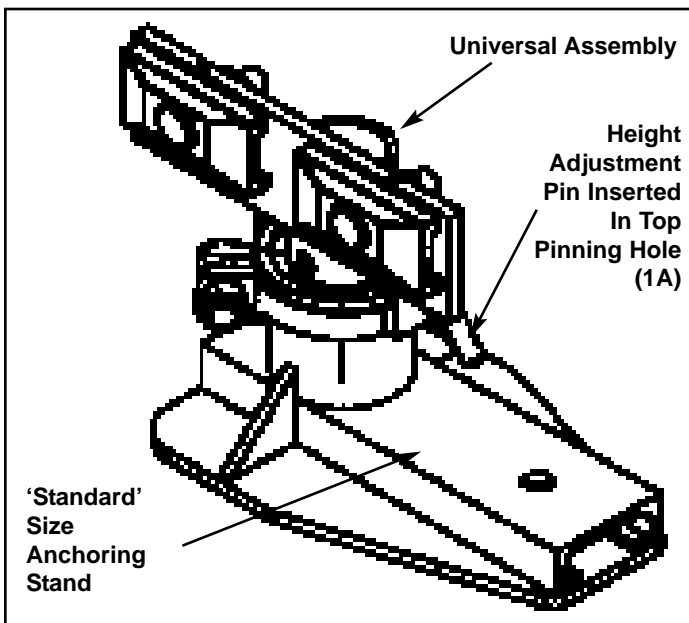

Figure 1
1. Attach two clamp jaws to the vertical plate of the adapter tube, install tube in anchoring stand base (see Figure 1) and position stand at front of center section on side of vehicle that must not move with pull.